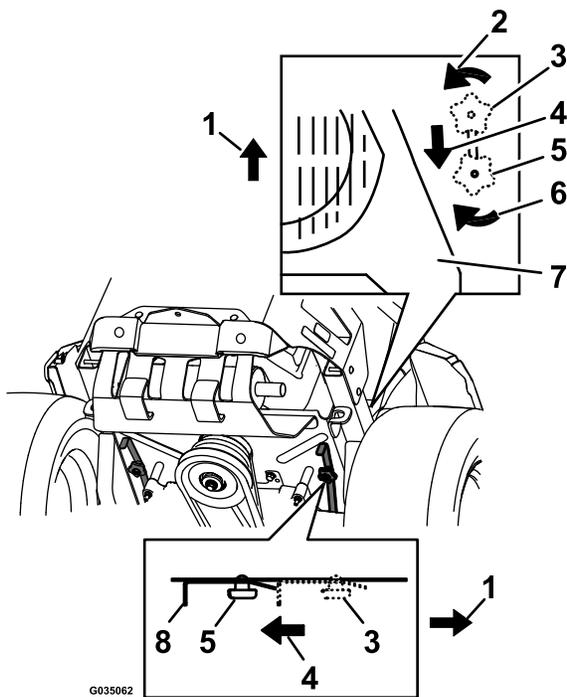

Figure 37
4. To push the machine, move both bypass knobs rearward and lock them into place (Figure 37).
6. To run the machine, move the bypass knobs to the FORWARD position and lock them into place (Figure 37).